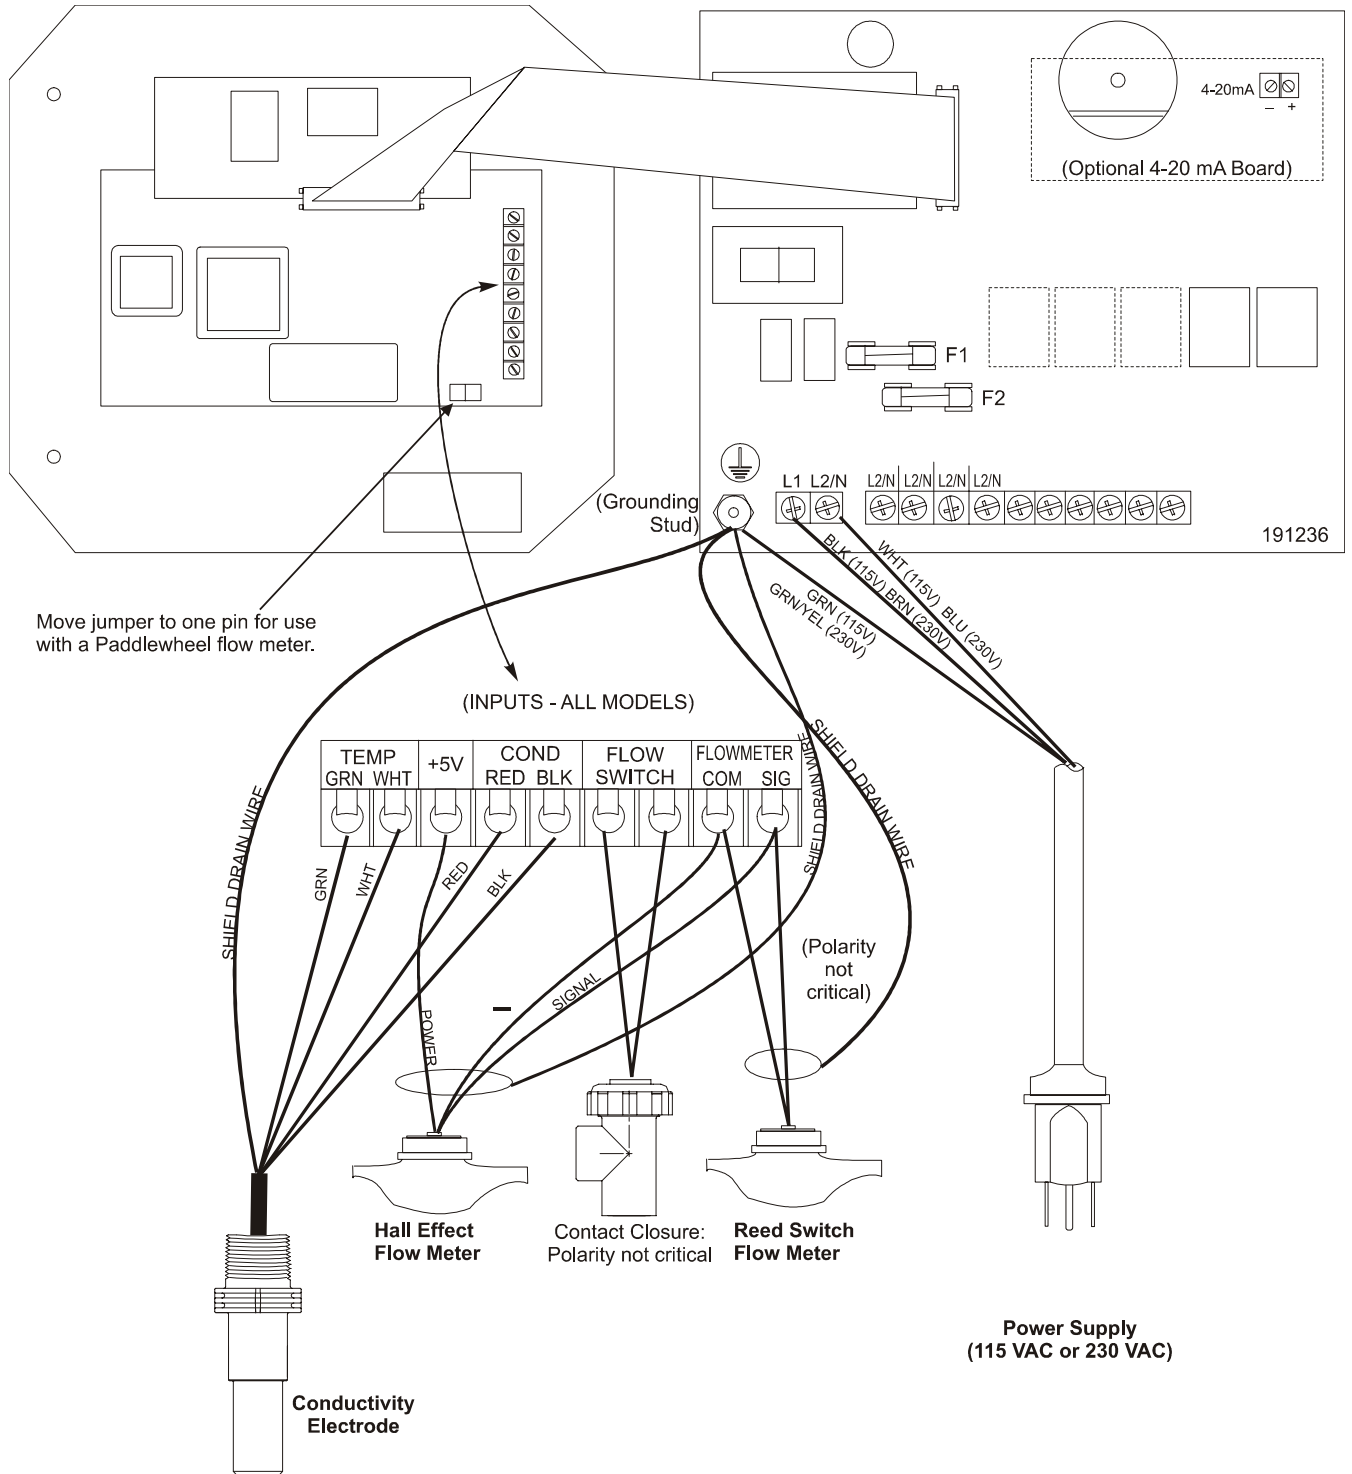

Figure 3 Inputs (for power relay board #191236)
The various standard wiring options are shown in figure 2. Your WBL series controller will arrive from the factory prewired or ready for hardwiring. Depending on your configuration of controller options, you may be required to hardwire some or all of the input/output devices. Refer to figures 3 and 4 for circuit board layout and wiring.
2. When wiring the optional flow meter contactor input, the 4-20 mA output or a remote flow switch, it is advisable to use stranded, shielded, twisted pair wire between 22-26 AWG. Shield should be terminated at the controller ground stud (see figures 3 and 4).